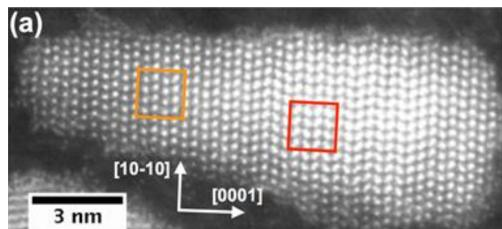

Figure 4.5: HAADF image of CdSe/CdS nanoparticles.
- Very much like in Figure 4.5 with Se vs. S.